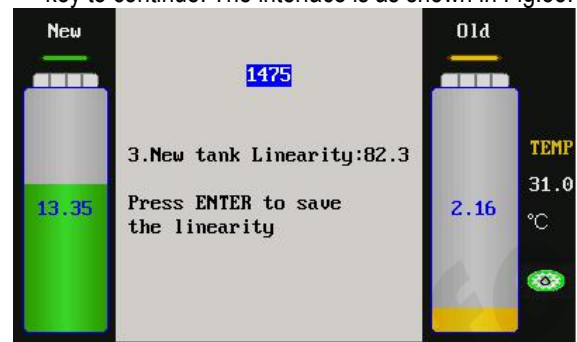

Fig.35
- 5) Put the weight on the plate. When the value displayed on the interface is stable, please press OK key to continue. The interface is as shown in Fig.35.